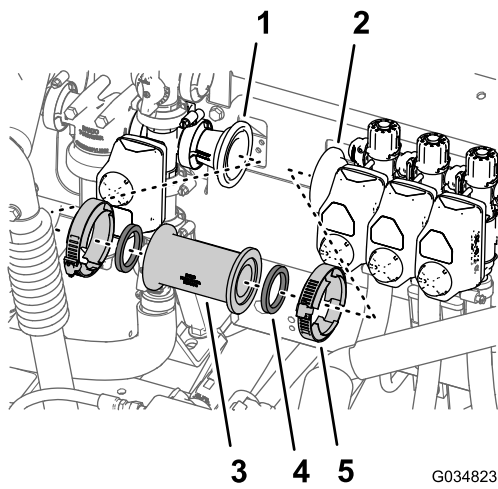

Figure 34
- Remove the 2 flange clamps that secure the coupling tube to the reducer adapters at the master-control valve and left boom-section valve (Figure 34).
B. Remove the straight coupler and 2 gaskets from the machine (Figure 34).